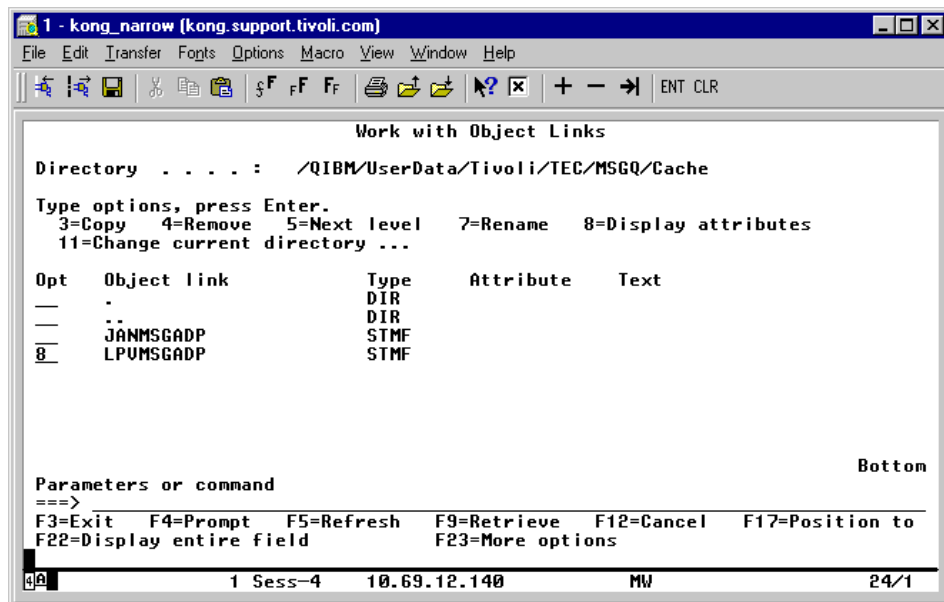

Figure 178. `WRKLNK` of /QIBM/UserData/Tivoli/TEC/MSGQ/Cache directory
3. Check to see if events are being cached using the Work with Object Links command, `WRKLNK`, to locate the buffer file as specified in the BufEvtName keyword. As shown in Figure 178, option 8 can be used to Display the attributes of the buffer file.